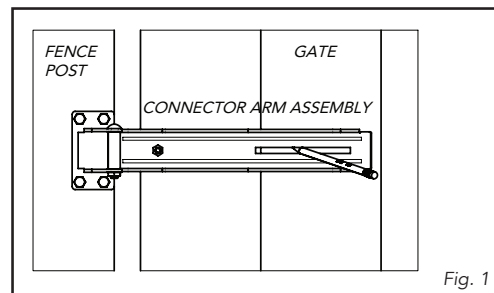

Fig. 1
2. Locate connector arm assembly at the desired height. Line up the edge of the fence post bracket with the edge of the fence post. Using the supplied lag bolts, mount fence post bracket and connector arm assembly to the fence post (Fig. 1).
3. Place the connector assembly in the "closed" position using the 4" x 1/4" rectangular slot as a template, mark the location of the slot on the gate (Fig. 1).